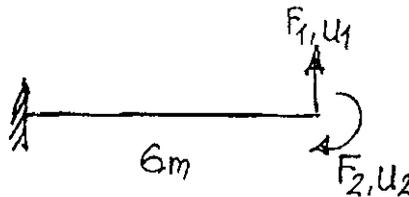

Fig. Q. 12.1
- (b) (i) What do you mean by “Engineering Design Cycle”? Explain various components using a suitable example from civil engineering. (6)
- (ii) Explain the characteristics of good design and bad design. How the acceptability of design is evaluated? (5)
- (iii) Explain the importance of modelling and illustrate the advantages of computer based modelling using a suitable example from structural engineering. (5)
12. (a) (i) Derive stiffness matrix of the beam shown in Fig. Q 12.1 using principle of superposition. EI is constant. (5)
in Fig. Q 12.1 using